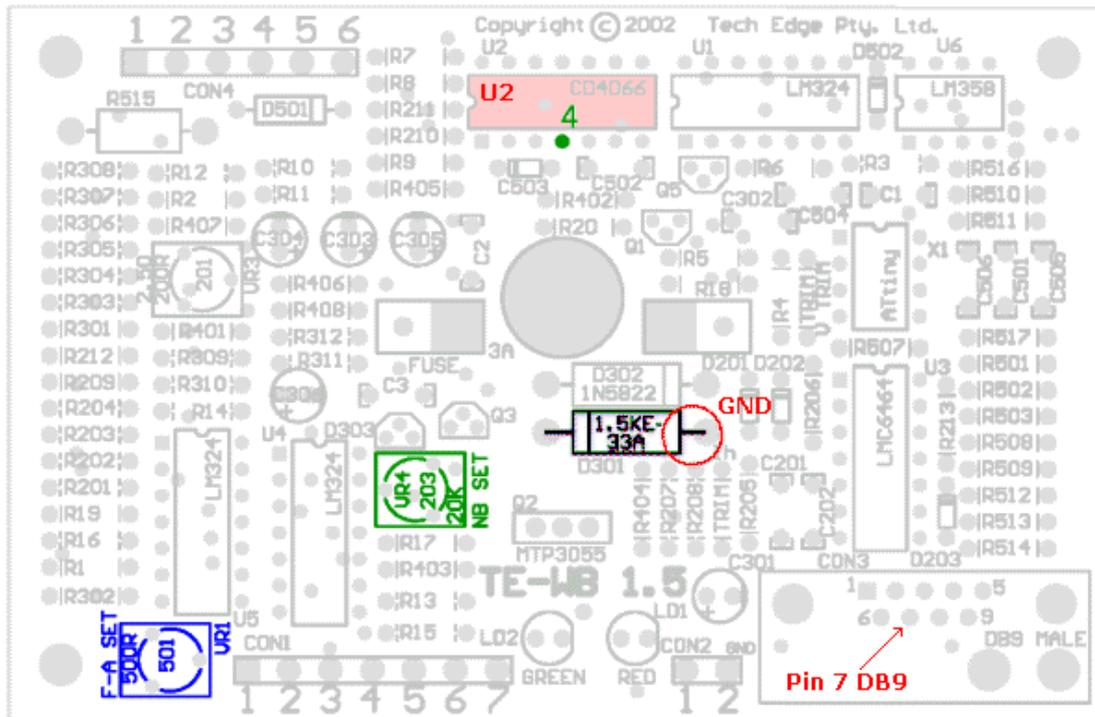

Figure 2.
3. Now adjust the **NB SET** Pot (Green in Fig 2 above) until the meter reads **0.45v** ($\pm 0.05v$). This will take a steady hand, as the adjustment is quite sensitive. (This is the 0-1v transition point for the Narrowband, and simulates a normal O2 sensor)
Attach your sensor to the WB Unit, and let the Heater warm up for at least 2 minutes **after** the RED heater LED comes on (vehicle should **NOT** be running). With the positive lead of the multimeter on **pin 7** of the **DB9** connector (or **pin 14** of **U4**) adjust the **F-A SET** pot (blue in fig 2 above) to attain a voltage as close to **4.00v** as possible.